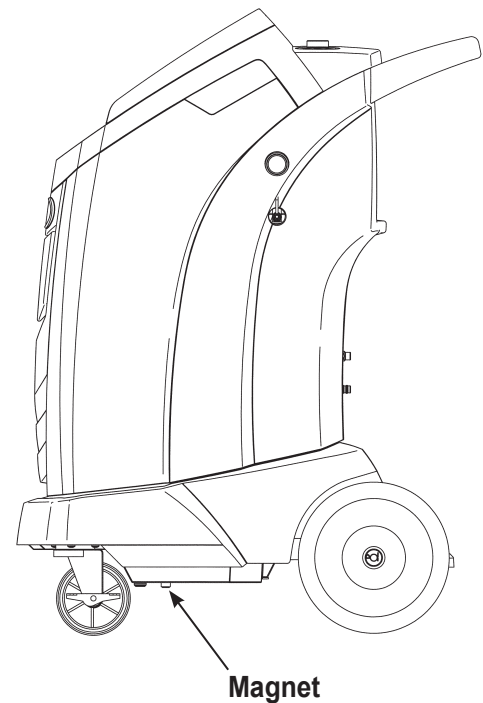

Figure 21
2. Refer to Figure 21, and verify the magnet on the bottom of the machine is clean.